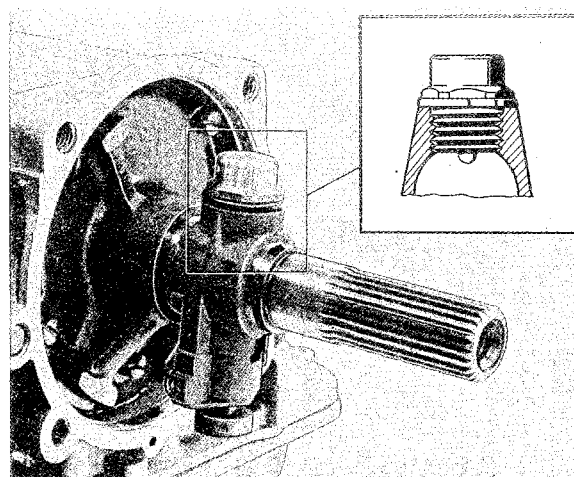

Fig. 4-96. Governor and driven shaft
5. Push the governor onto the shaft as shown in Fig. 4-96. Make sure that the pin on the bolt enters the recess on the shaft, tighten the bolt to a torque of 20–25 Nm (2.0–2.5 kpm=15–18 lbft). This tightening torque should not be exceeded.